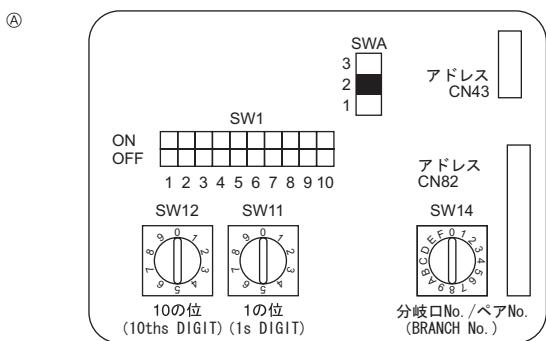

Fig. 6-4
6.5. Setting addresses (Fig. 6-4)
6.6. Sensing room temperature with the built-in sensor in a remote controller (Fig. 6-4)